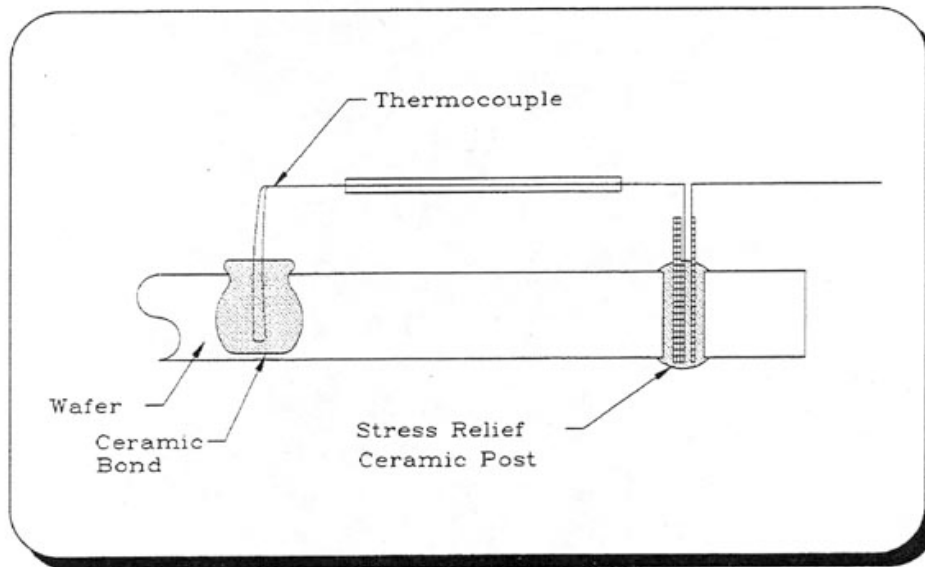

Figure 4-5. TC Wafer Assembly
- **TC Wafer Assembly:** This is a type K chromel-alumel thermocouple that is cemented to a wafer. The cement used is a sodium-free ceramic cement (see **Figure 4-5**). The TC Wafer assembly is typically used for the calibration of the pyrometer or as a carrier for small pieces of R&D samples needing to be annealed.
The TC Wafer assembly (see **Figure 4-5**) has a thermocouple embedded in and cemented to the wafer.